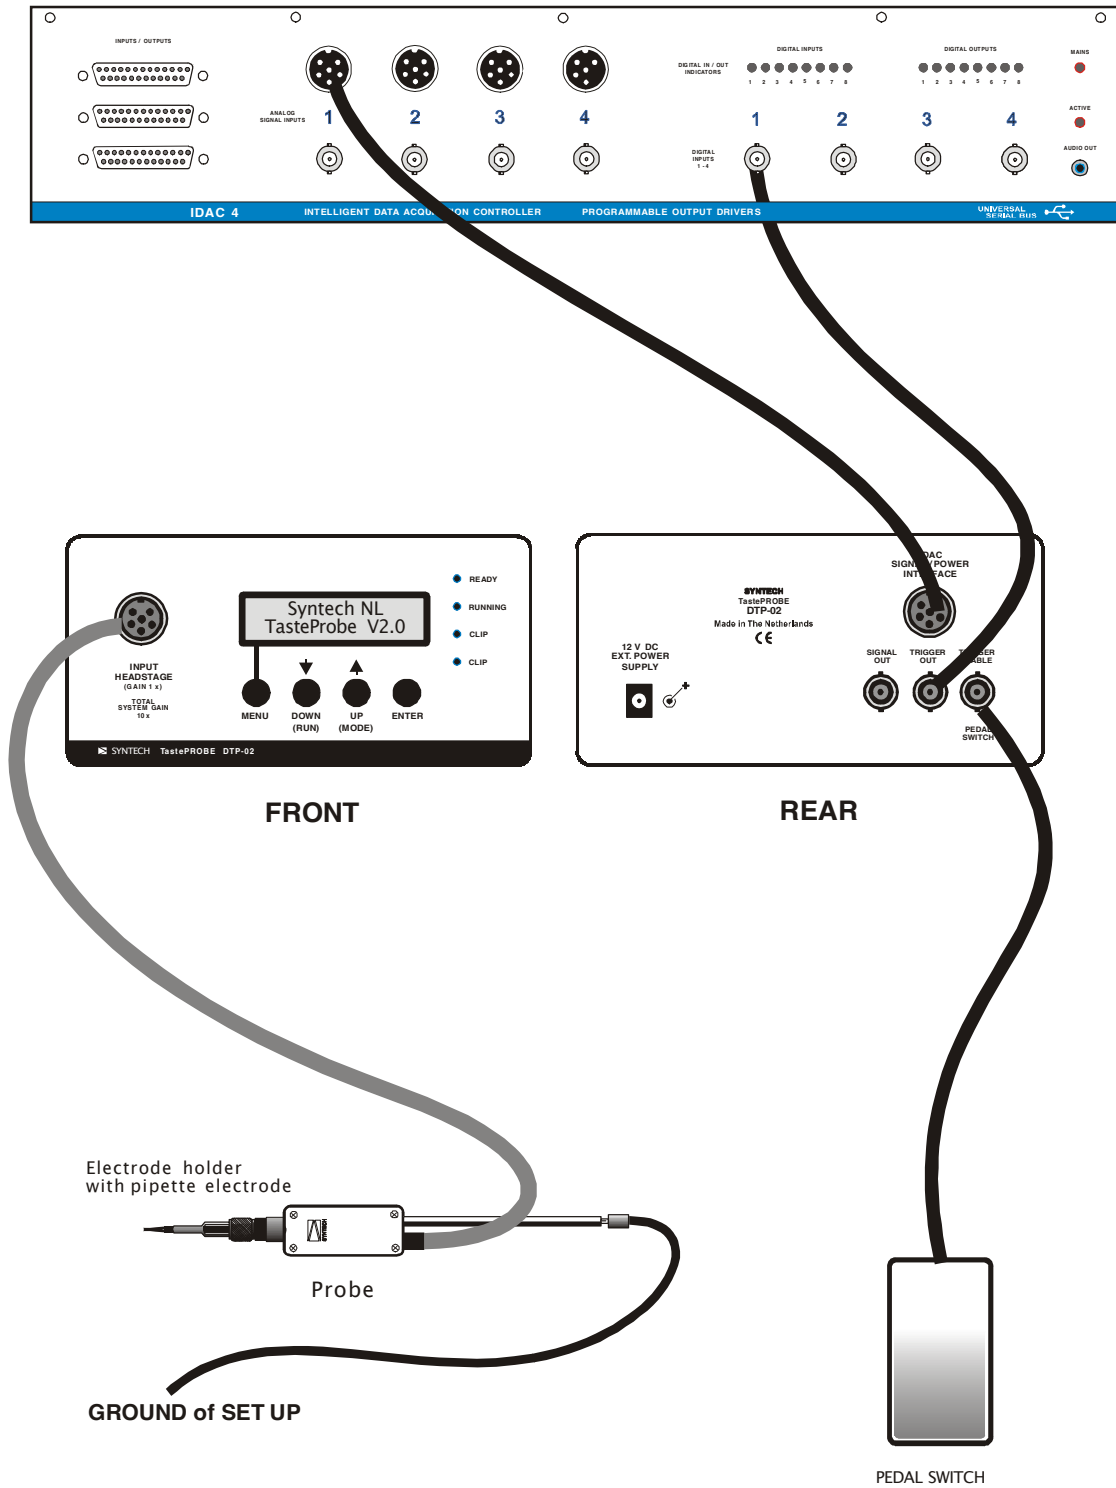

Fig. 2 CONNECTIONS FOR USE WITH SYNTECH IDAC-4
CONNECTIONS to Syntech USB-IDAC (Fig. 2)
- 3 Make the connection between the **IDAC interface** using the special cable supplied (see figure). Connect to the Analog 1 input of the USB-IDAC (Fig. 2).